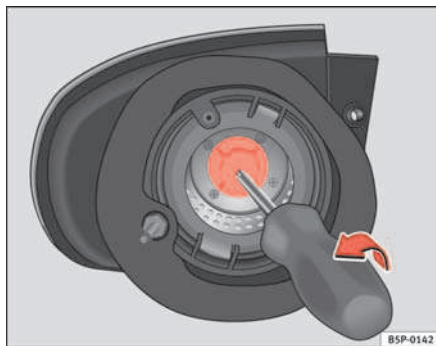

Fig. 184 Indicator lights.
- Pull out the lamp holder from the turn signal using a screw driver in the direction of the arrow (see ⇒ fig. 184).